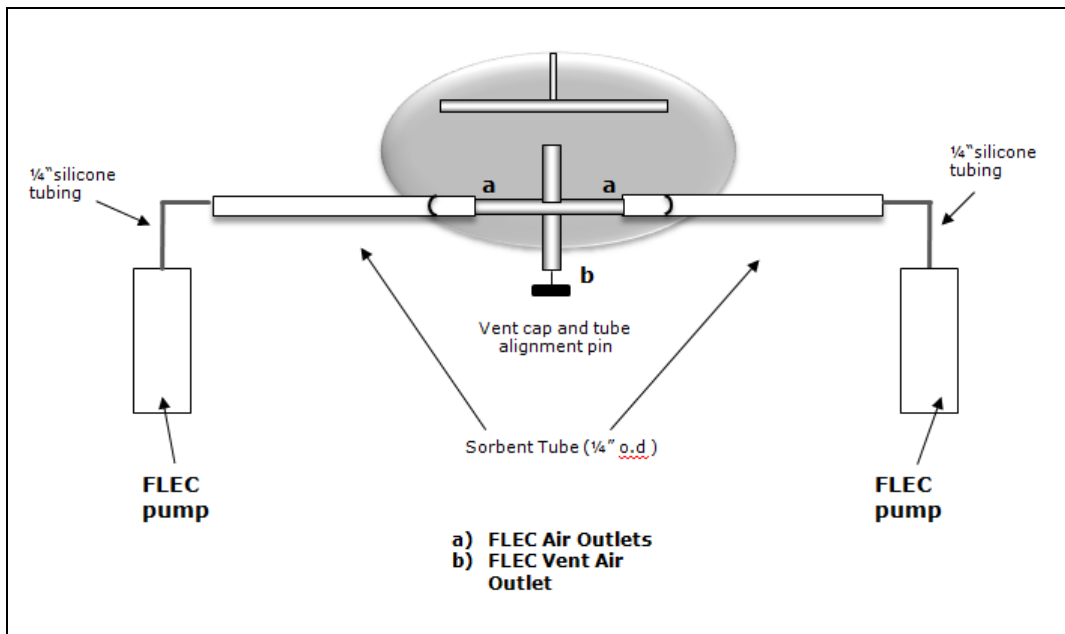

Figure 8. Schematic depiction of FLEC experimental set up with sorbent tubes connected. Sampling commences when FLEC pumps are turned ON
3. Once each of the two sorbent tubes are in place, the vent cap is removed and the connections to each of the sorbent tubes are tightened gently with a wrench to make them leak tight (figure 8)